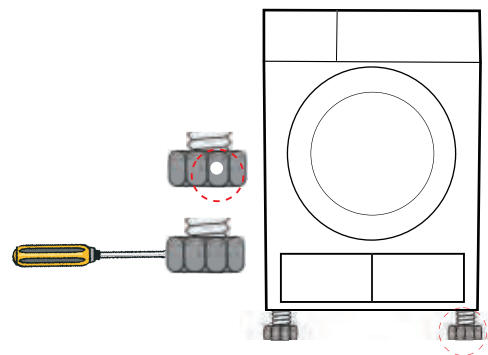

Fig1
- If the floor is obviously uneven, it needs to be adjusted. It vibrates the machine, causing machine to move from its position. Using tools to adjust the height of four machine legs to adjust the levelness of this dryer.(Fig1)